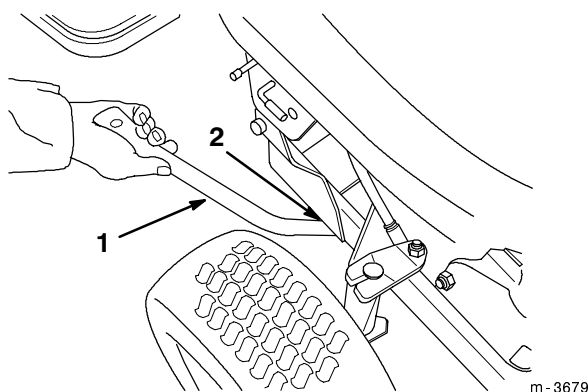

Figure 12
- C. Slide the round end of the crank support under the notch in the snowthrower frame (Fig. 12).